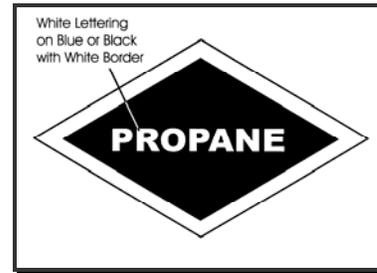

Figure 5.1.10c - Propane Diamond Decal
3. Ensure that the propane decal (Figure 5.1.10c) is correctly displayed on vehicles equipped with motor and/or mobile fuel tanks. Location requirements are: